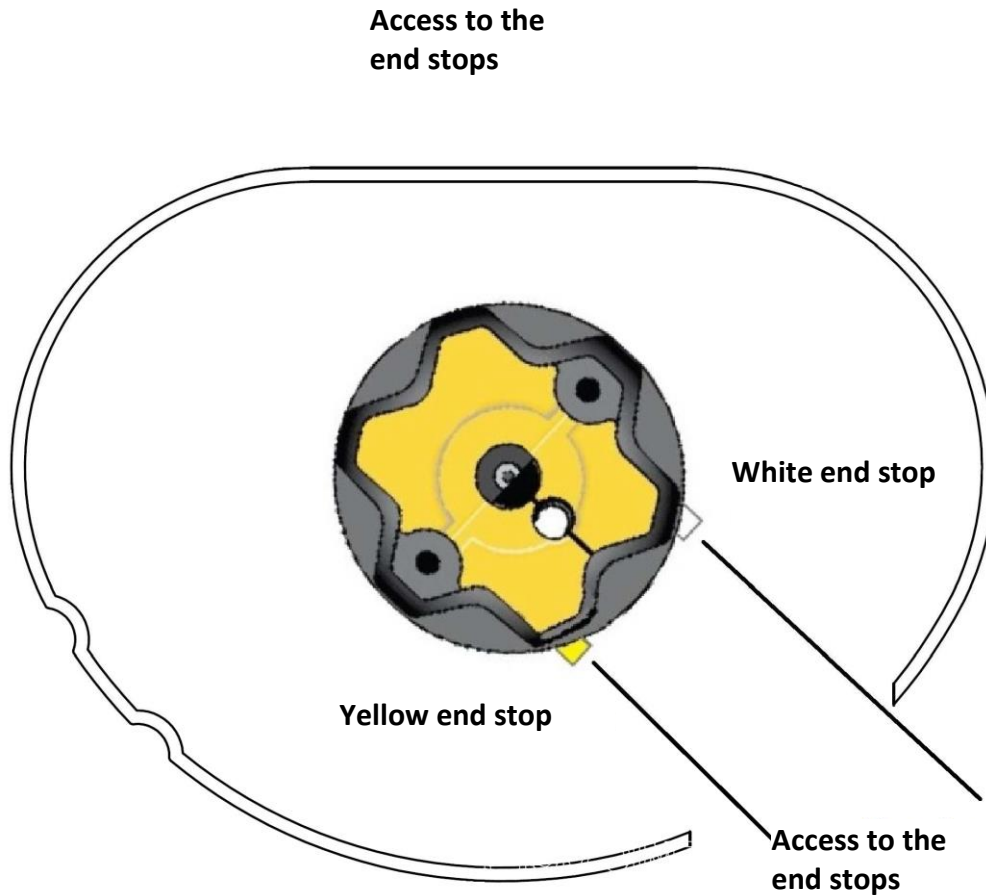

Fig.3
3. The delivered screen has end positions set in accordance with the order. If the surface of the screen scrolls too low or not enough, correct the bottom end position using the included wrench (fig.3). **Before adjustment, check in the warranty card which type of engine your screen is equipped with.**